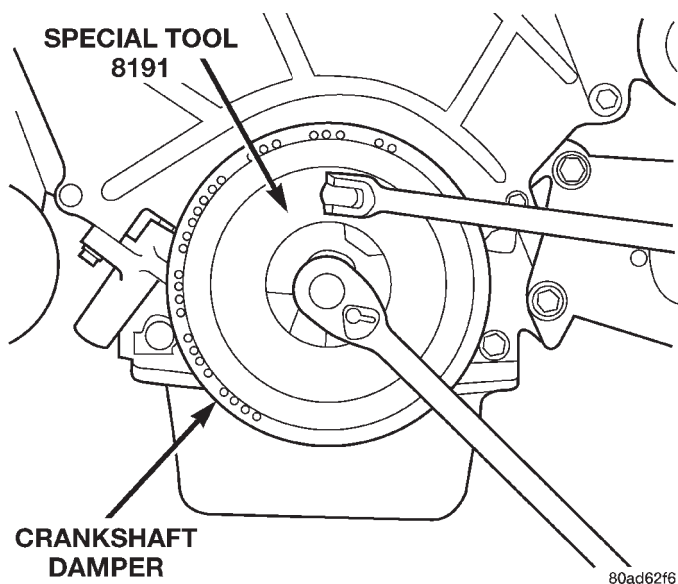
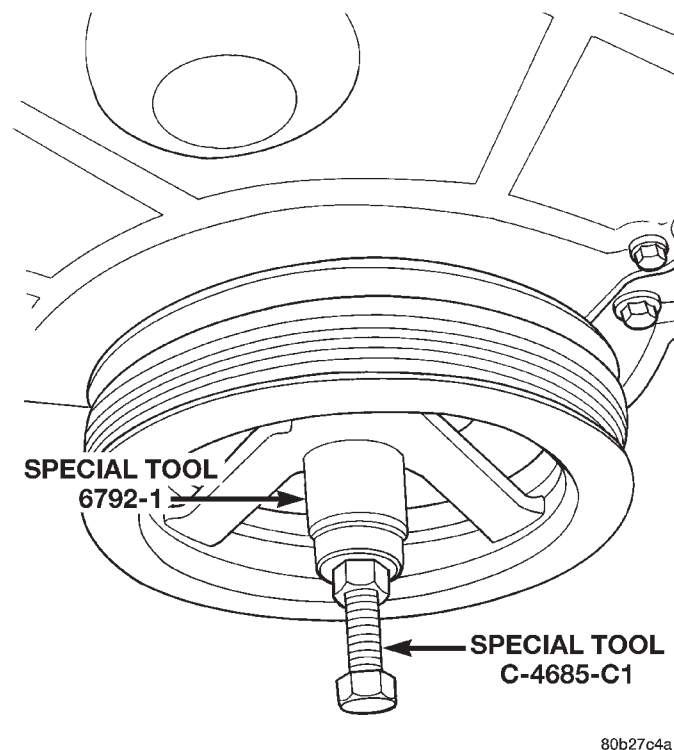

Fig. 31 Crankshaft Damper Center Bolt—Removal and Installation
Fig. 33 Crankshaft Damper—Installation
- (1) Disconnect negative cable at right strut tower.
- (2) Remove upper radiator crossmember. Refer to Group 23, Body for procedure.
- (3) Remove fan module. Refer to Group 07, Cooling System for procedure.
- (4) Remove the accessory drive belts. Refer to Group 07, Accessory Drive System for service procedure.
- (5) Use Special Tool 8191 to hold crankshaft damper while removing center bolt (Fig. 31).
- (1) Install crankshaft damper using Special Tools C-4685-C1 (5.9 in.) Bolt, with Nut and Thrust Bearing from 6792, and 6792-1 Installer (Fig. 33). Install center bolt and tighten to 115 N·m (85 ft. lbs.) (Fig. 31).
- (2) Install accessory drive belts.
- (3) Install fan module.
- (4) Install upper radiator crossmember.
- (5) Connect negative cable.